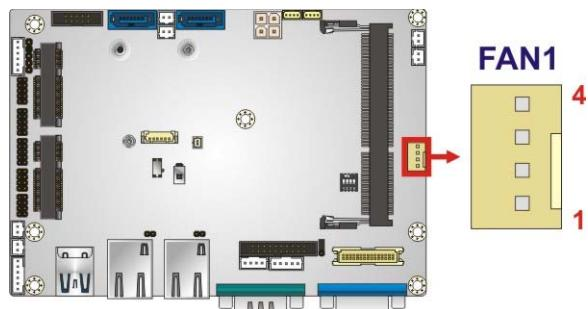

Figure 3-27: System Fan Connector Location
**CN Location:** See Figure 3-27